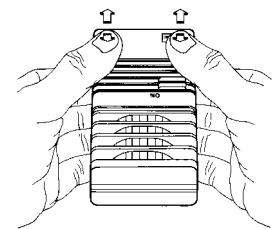

Figure 2. Battery Cover Removal
If desired, the MINI-ALERT may be installed on a wall with 2 screws (supplied). See Figures 2 and 3.
- Remove the battery cover from the front of the unit by placing your thumbs as shown in Figure 2 and exerting a slight pressure downward and toward the bottom of the unit.
- Remove the battery cover (see Figure 2). Snap the battery connector onto a 9 Volt battery.